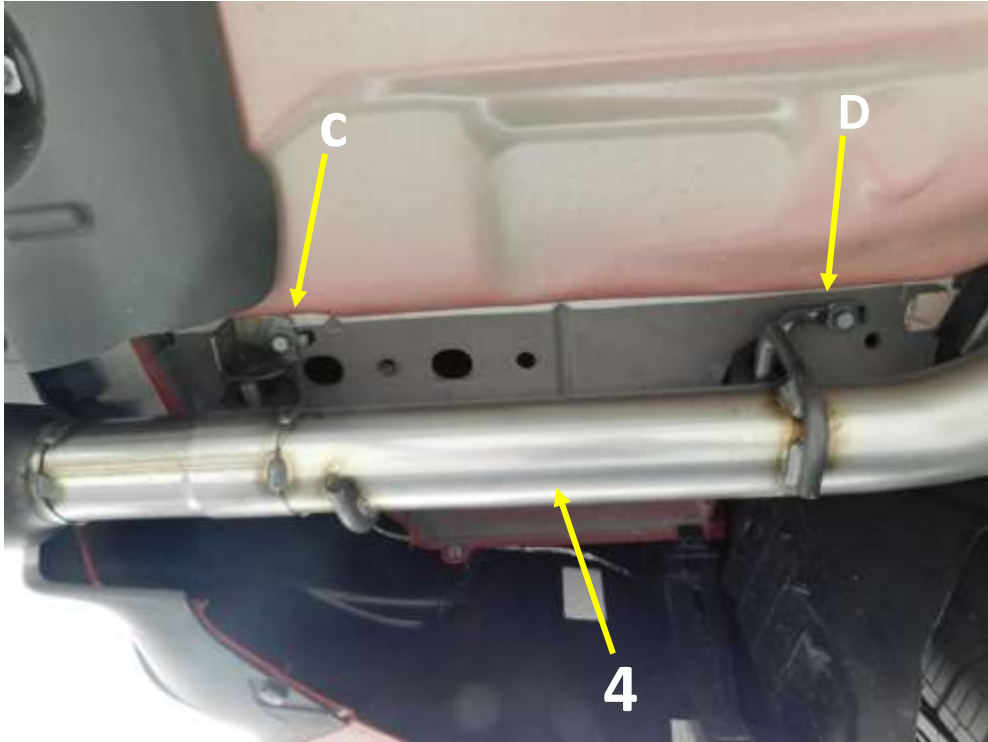

Figure 5
9. Remove the left muffler hangers from the factory exhaust and install the left hanger assemblies **(C)** & **(D)** on to the left Flowmaster tailpipe **(4)** as shown in **Fig. 5**. Be sure they are positioned in the same location and orientation as they were on the factory exhaust.